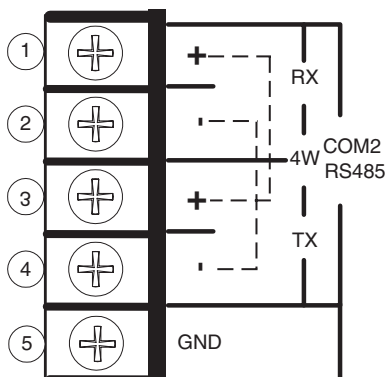

Figure 5-3 RS-485 4-Wire Loopback Configuration
- The RS-485 terminals have been configured for Loopback testing (See Figure 5-3.)